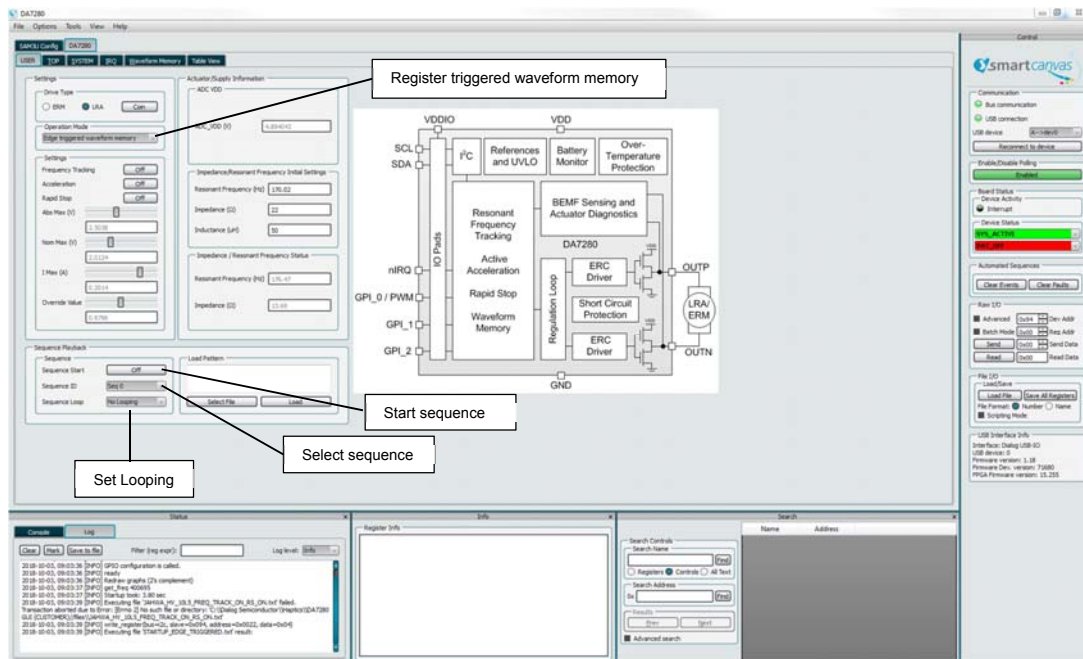

Figure 26: GUI in RTWM Mode
1. In **Drive Type**, select **LRA**, see Figure 26.